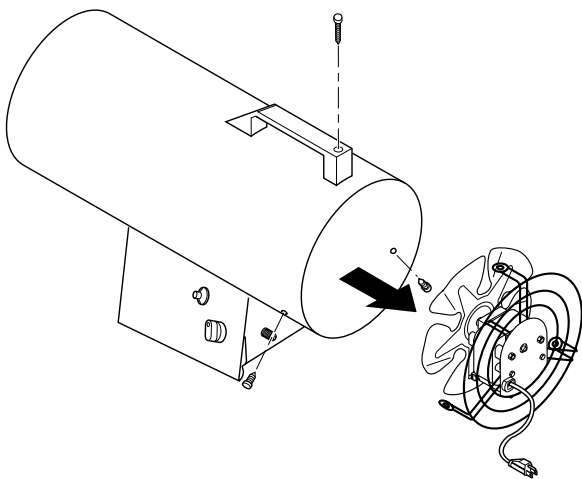

Figure 10 - Removing Motor and Fan Guard from Heater
2. Remove motor and fan guard from heater shell (see Figure 10).